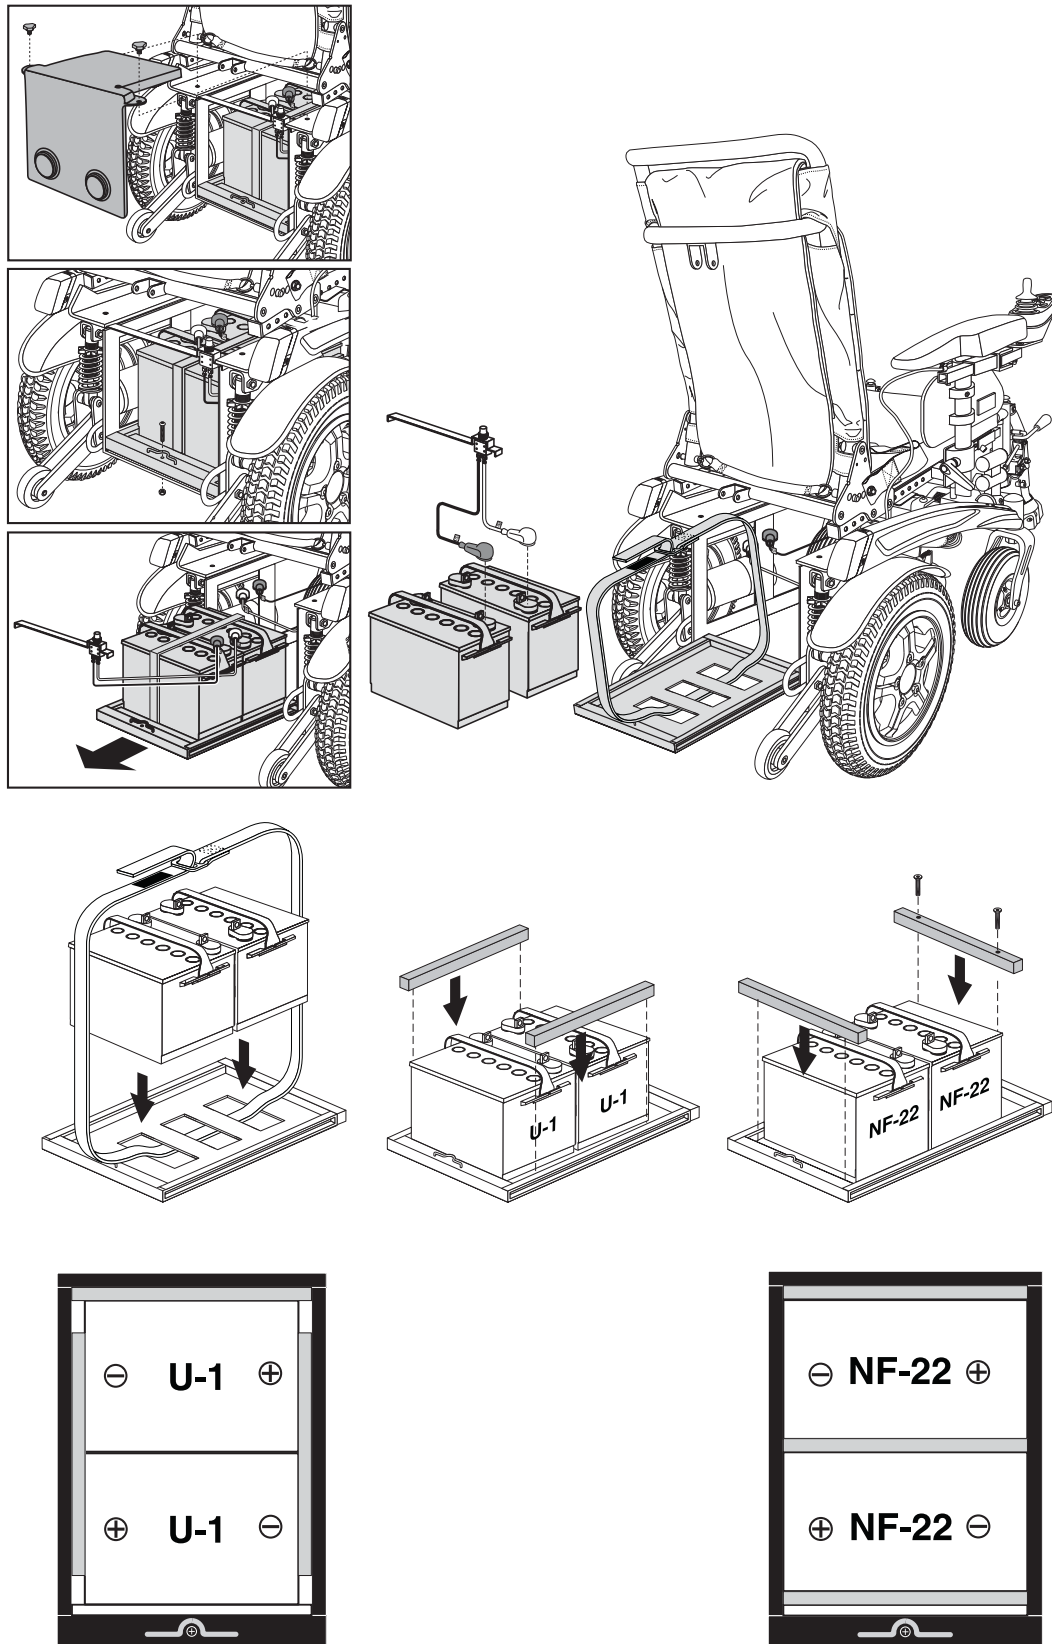

Figure 28. Battery Replacement
3. Remove the two (2) thumbscrews from the top of both sides of the rear cover.
6. Lift the battery tray by the handle and then slide the battery tray back. **See figure 28.**
10. Install the new batteries. **See figure 28.**
12. Connect the front battery cable to the front battery terminals according to the battery wiring diagram. **See figure 28.**
13. Connect the rear battery cable to the rear battery terminals according to the battery wiring diagram. **See figure 28.**
16. Reinstall the two (2) thumbscrews to each side of the rear cover.